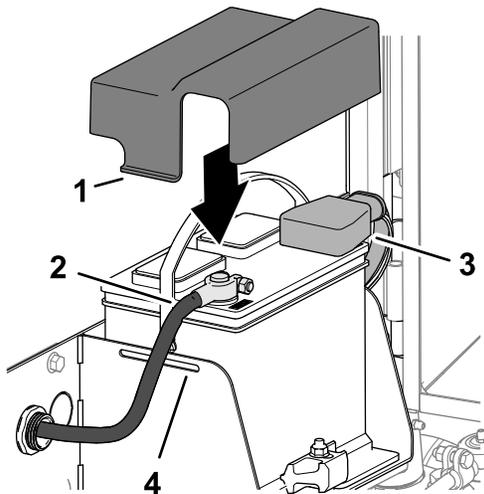

Figure 101
1. Install the positive battery cable (red) to the positive (+) battery post (Figure 101).